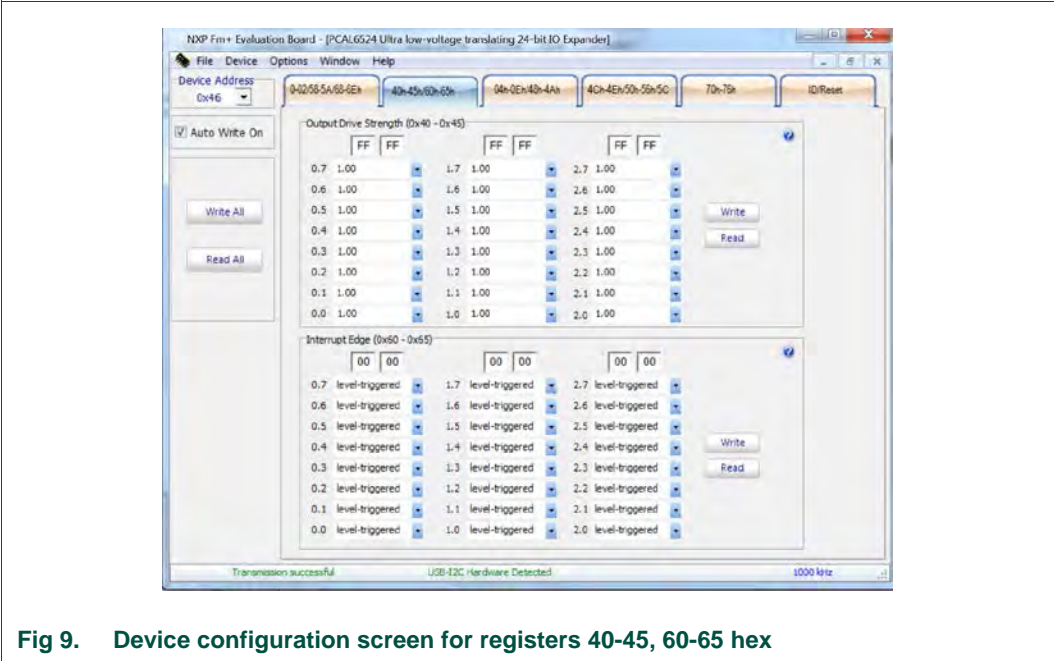

Fig 9. Device configuration screen for registers 40-45, 60-65 hex
3. Second group registers read or write are shown in Fig 9.
| Fig 9. | Device configuration screen for registers 40-45, 60-65 hex | 12 |